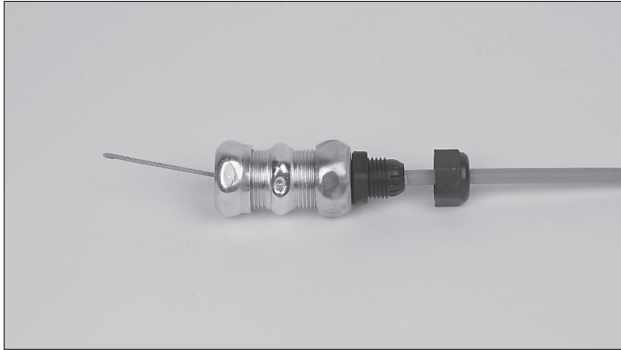

FIGURE 5-100
4. Install the strain relief body into the compression union and tighten. See Figure 5-100.